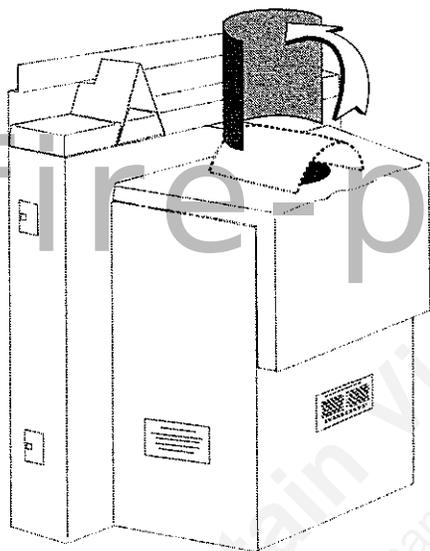

FIGURE 15. Raise header heatshield into position
1. Raise the vent heat shield into an upright position to allow access to the fireplace flue collar. Fig. 15.